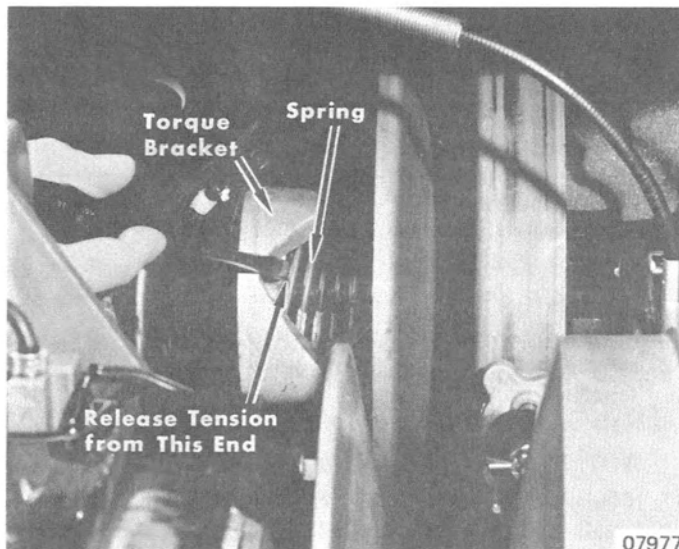

Figure 2. Releasing Tension on Sheave Spring
6. Release tension on sheave spring with a screwdriver inserted between torque bracket and sliding half of sheave. (Figure 2)